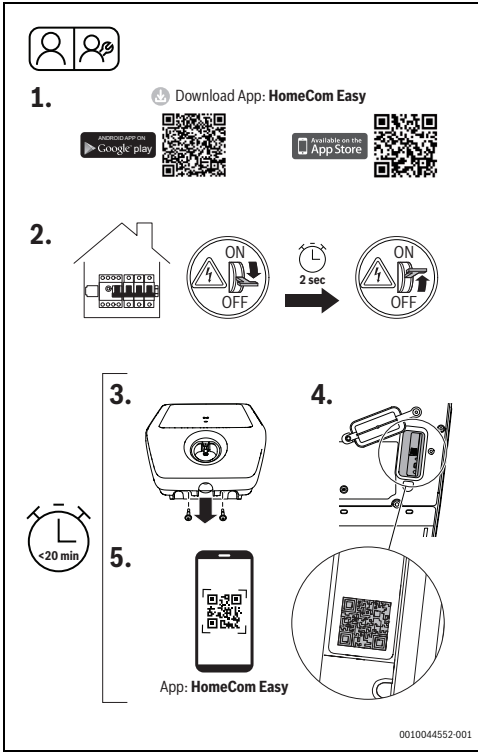

Fig. 43 HomeCom Easy
- ▶ Switch off the Power Charge 7000i on the power supply's switchboard and after two seconds, approximately, switch it back on (Fig. 43, step [2]).
- ▶ Loosen the two screws on the front cover (Fig. 43, step [3]).